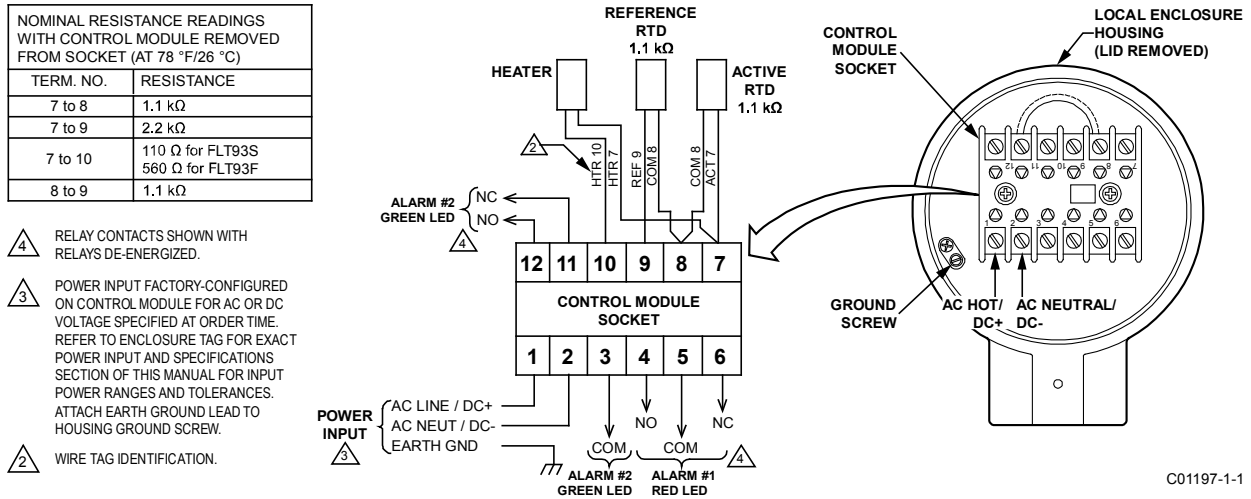

Figure 5 – Local Wiring Diagram
4. Wire AC Hot/DC+ and AC Neutral/DC- directly to control module socket screw terminals 1 and 2 respectively. Attach earth ground lead to enclosure grounding screw. See Figure 5 wiring diagram below. Refer to Table 1 on page 7 for minimum wire gauge recommendations.
5. Wire the relay contacts using the control module socket screw terminals indicated in the wiring diagram in Figure 5 below. When connecting the relay wiring, do so with complete understanding of what the process requires of the instrument. The instrument has dual SPDT relay output contacts for each alarm switch point. For the relay logic, refer to Figure 5. Also refer to the jumper configuration tables in OPERATION starting on page 15. Relay contacts are shown with the relays de-energized. Wire in accordance with the system requirements.